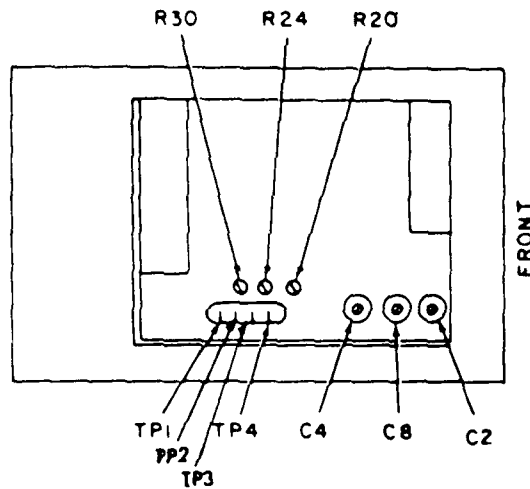

Figure 2. Test instrument left side view.
- (1) Set **RANGE** switch to **X1K** and frequency dial to **10**.
- (2) Connect multimeter between TP 4 (fig. 2) and chassis ground.
- (3) Adjust R20 (fig. 2) for 0.0 V dc indication on multimeter (R).
- (4) Adjust frequency dial to **1** and connect positive lead of multimeter to TP 1 (fig 2).
- (5) Adjust R24 (fig. 2) for a -2.0 V dc indication on multimeter (R).
- (6) Set frequency dial to **10** and adjust C2 and C8 (fig. 2) for an indication of 10 kHz on frequency counter and a -2.0 dc indication on multimeter.
- (7) Repeat (4) through (6) above to compensate for interaction.
- (8) Set **RANGE** switch to **X100K** and adjust C4 (fig. 2) for a 1 MHz indication on frequency counter.
- (9) Set **RANGE** switch to **X5** and adjust frequency dial to **1**. Repeat technique of a (2) through (5) above.
(1) Set **RANGE** switch to **X1K** and frequency dial to **10**.
(2) Adjust R30 (fig. 2) for minimum distortion as indicated on audio analyzer (R).
(3) Repeat a (2) through (6) above.